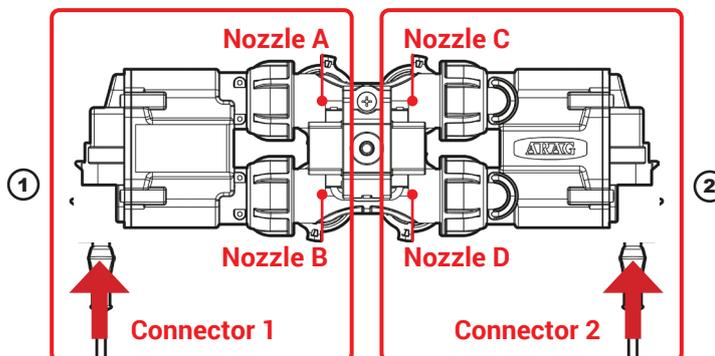

Fig. 373
- 1 Connect in sequence **ONLY SELETRON NOZZLE HOLDERS A AND B**, from left to right until the end of the boom (**connector 1** in Fig. 373).